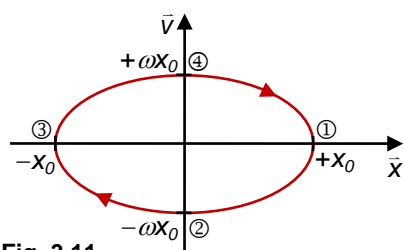

Fig. 3.11
Using $\bar{v} = \pm \omega \sqrt{x_0^2 - \bar{x}^2}$, we can then get $\bar{v} - \bar{x}$ plot as shown in Fig. 3.11.
For $\bar{x} = x_0 \cos(\omega t)$ the plot goes from ① → ② → ③ → ④ → ① (Fig. 3.11 & 3.12).
' \pm ' reflects the fact that for each \bar{x} there are two possible \bar{v} directions as shown in Fig. 3.11.